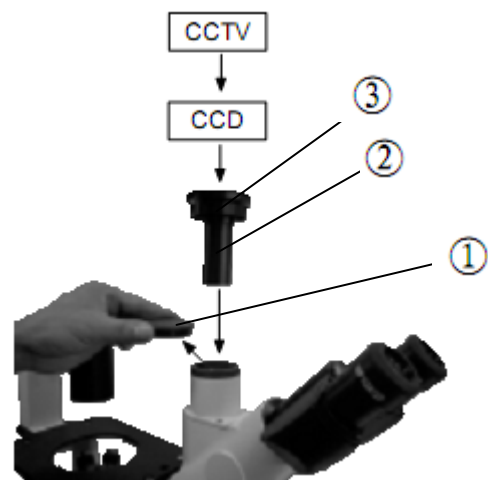

Fig.32
### 6-1-2 Installing the video set (Fig.32)
1. Take away the dust cap① on trinocular tube.
2. Inset the video accessory② into trinocular tube and screw the pressing ring③ tightly.
3. Screw the mount adapter with CCD camera into the video accessory port② in the direction as shown in Fig.32.
### 6-1-3 Focus (Fig.32)